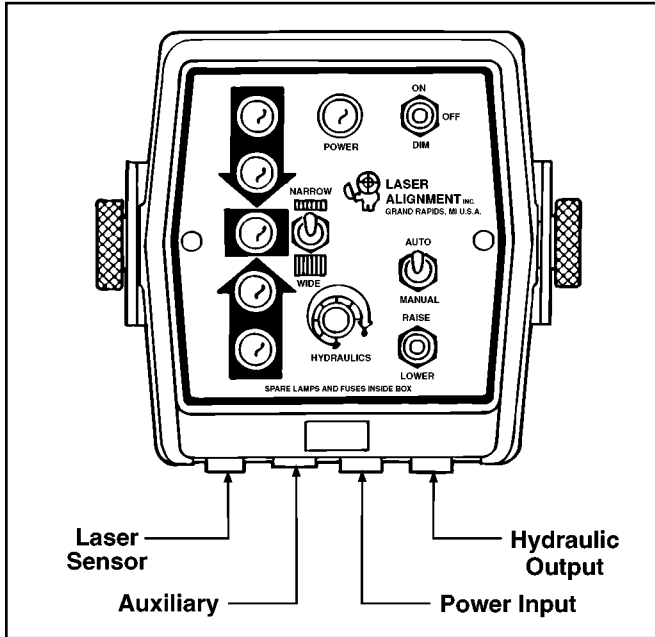

Figure 1-10 Cable Connectors
- **Connectors.** (Refer to Figure 1-10) The Control Panel has three connectors and an Auxiliary Port.